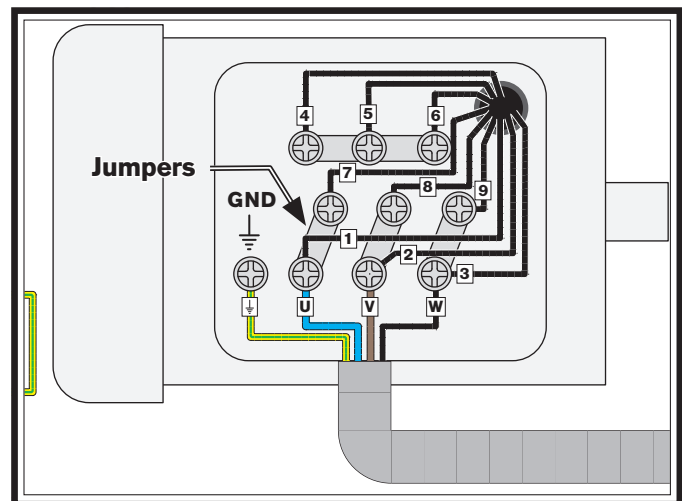

Figure 53. 220V Jumper locations.
2. Open the motor junction box, then loosen the nine screws that secure the wires and jumpers to the motor junction block shown in **Figure 53**.